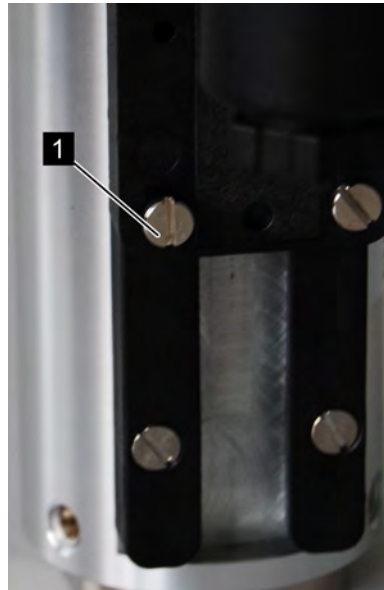

Fig. 33: Loosen set screws
2. ➤ Loosen the set screws of the switch contact (Fig. 33/1) using a flat-bladed screwdriver
6. ➔ Tighten the set screws of the switch contact (Fig. 33/1) using a flat-bladed screwdriver. When doing so, observe the correct tightening torque of the screws.